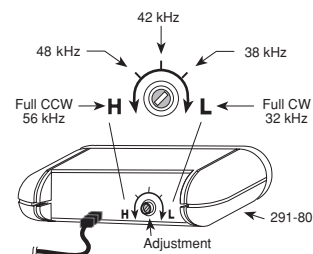

Fig. 2 IR Carrier Frequency Adjustment
The 291-80 is factory set to an IR carrier repeat frequency of 38 kHz. This will be correct for the majority of installations. However, some manufacturer's components that you wish to control may use different carrier frequencies (such as the RCA DSS receivers that use 56 kHz). If such carrier frequencies fall within the range of 32 kHz to 56 kHz, you can adjust the 291-80 to match them for best range performance. The adjustment can be made through a small opening on the rear panel. See Fig. 2.
3. Using a small blade type screwdriver (3/32" blade width max.), rotate the adjustment shaft until the slot lines up with the desired frequency marking. Refer to Fig. 2.
NOTE: The frequency markings shown in Fig. 2 are approximate only. You may need to "fine tune" the adjustment for best performance.
- If you have products in the same IR system that have different IR carrier frequencies, you will have to adjust the 291-80 to a midway position. For example, some products may operate at 38 kHz and others at 56 kHz. In this case, set the adjustment to approximately 47 kHz, a midway position just to the right of the 48 kHz marking in Fig. 2.